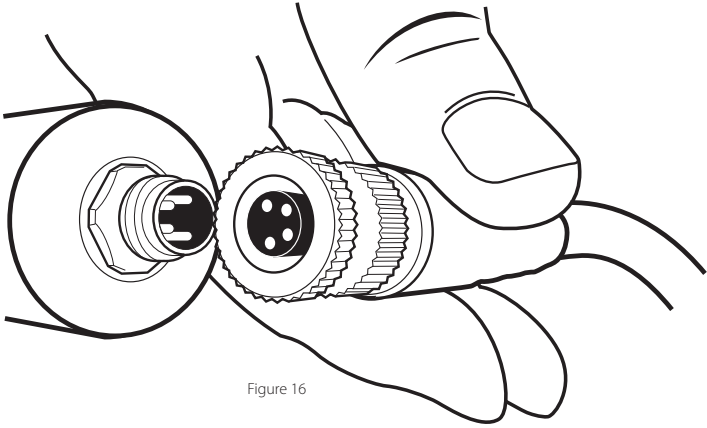

Figure 16
4. Pick up the female end of the **Power Cable** and align it with the connector protruding from the tube (figure 16).